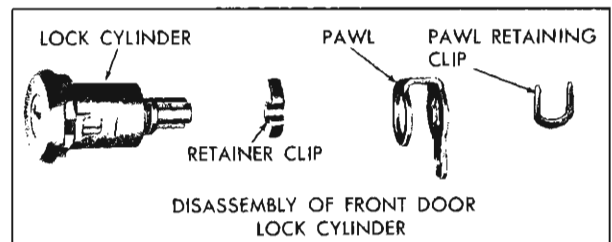

Fig. 26—Disassembly of Front Door Lock Cylinder
2. Remove pawl retaining clip, pawl and lock cylinder retaining clip (fig. 26).